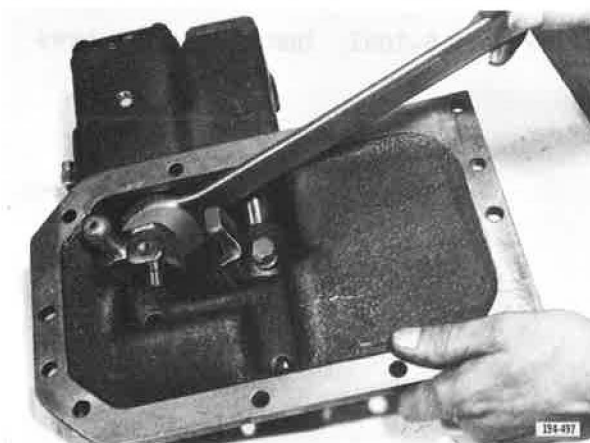

Figure 5-999. Tightening Nut
8. Lock Hi/Direct shifter in neutral position by tightening the locknut. See Figure 5-999.